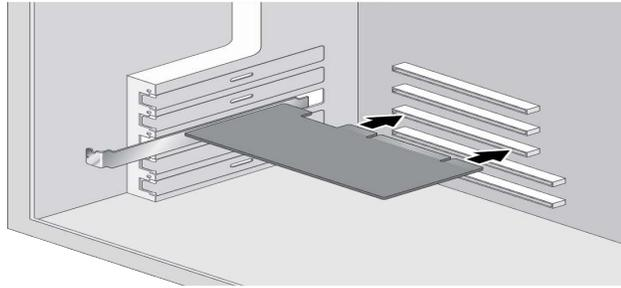

Figure 11. Inserting the Network Adapter
5. Applying even pressure at both corners of the network adapter, push the adapter until it is firmly seated in the PCIe slot. Refer to Figure 11.